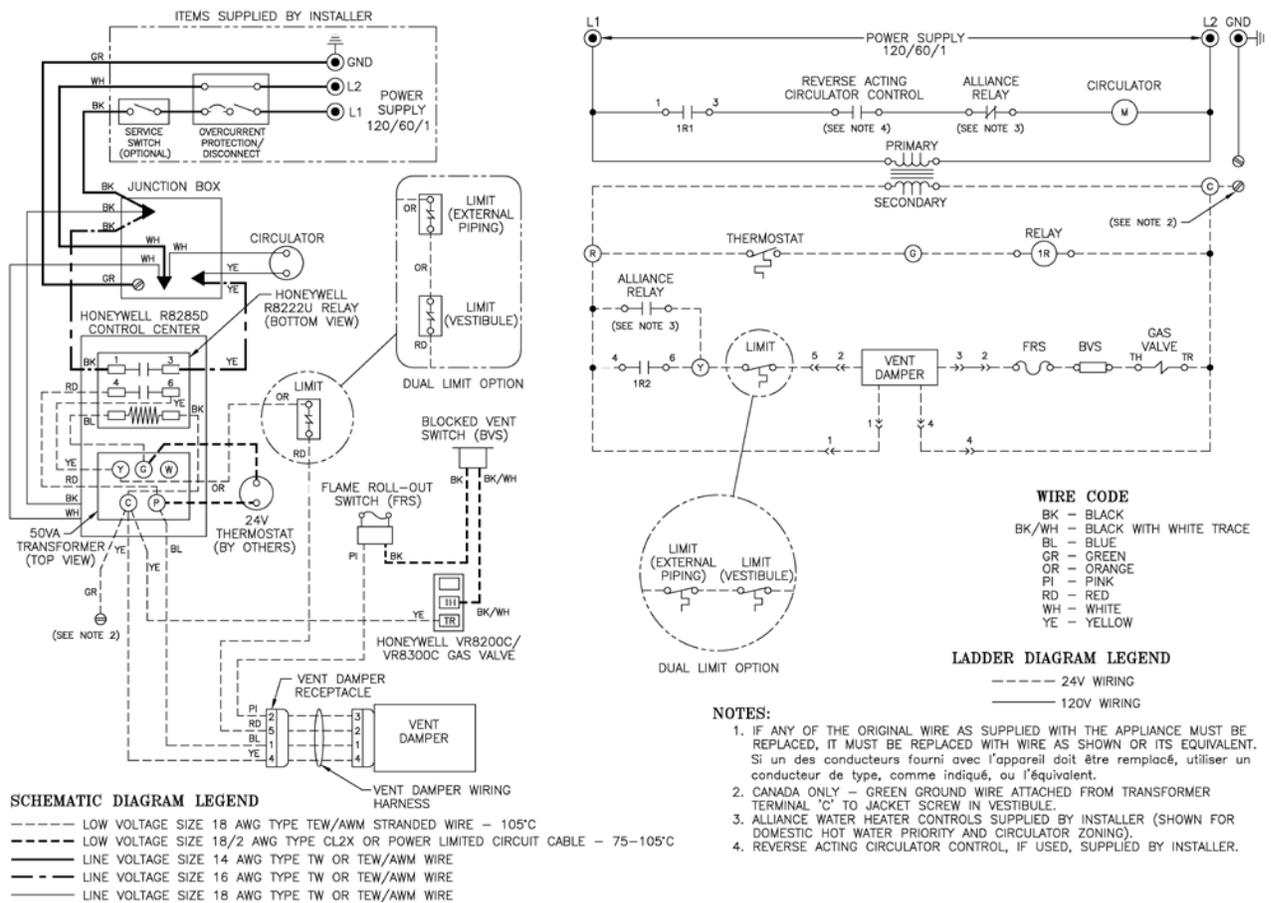

Figure 11: Wiring Diagram, 24 Volt Standing Pilot and Intermittent Circulation
16. INSTALL ELECTRIC WIRING in accordance with National Electric Code or the Canadian Electrical Code and local regulations. See Figures 11 through 16 for applicable wiring diagram. A separate electrical circuit must be run from the main electrical service with an over-current device/disconnect in the circuit. A service switch is recommended and may be required by some local jurisdictions. When installed, the boiler must be electrically grounded in accordance with local codes or, in the absence of local codes, with the National Electrical Code, ANSI/NFPA 70, and/or the CSA C22.1 Electrical Code, if an external electrical source is utilized.